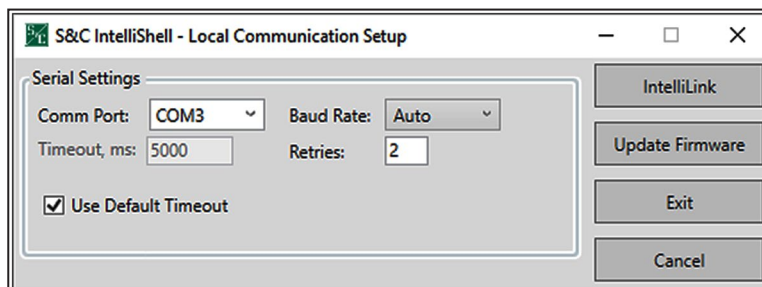

Figure 23. The S&C IntelliShell—Local Communication Setup dialog box.
- (d) Click on the **Update Firmware** button. See Figure 23.